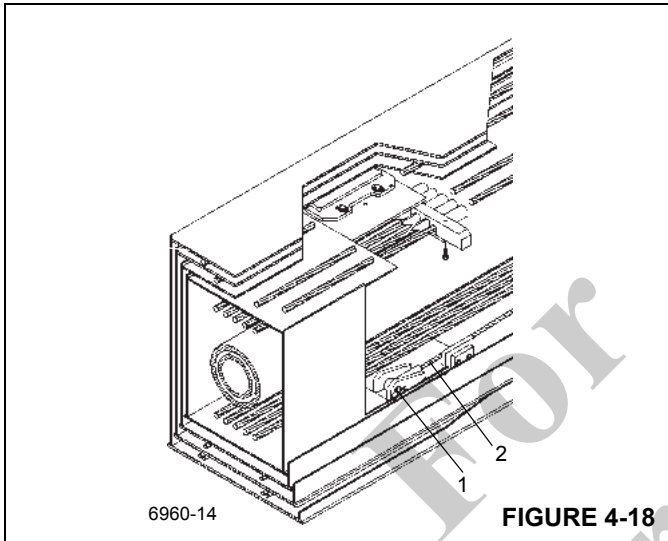

FIGURE 4-18
12. Remove the clip pins and pins (1) securing the four fly retract cables (2) to the rear of the fly (Figure 4-18).